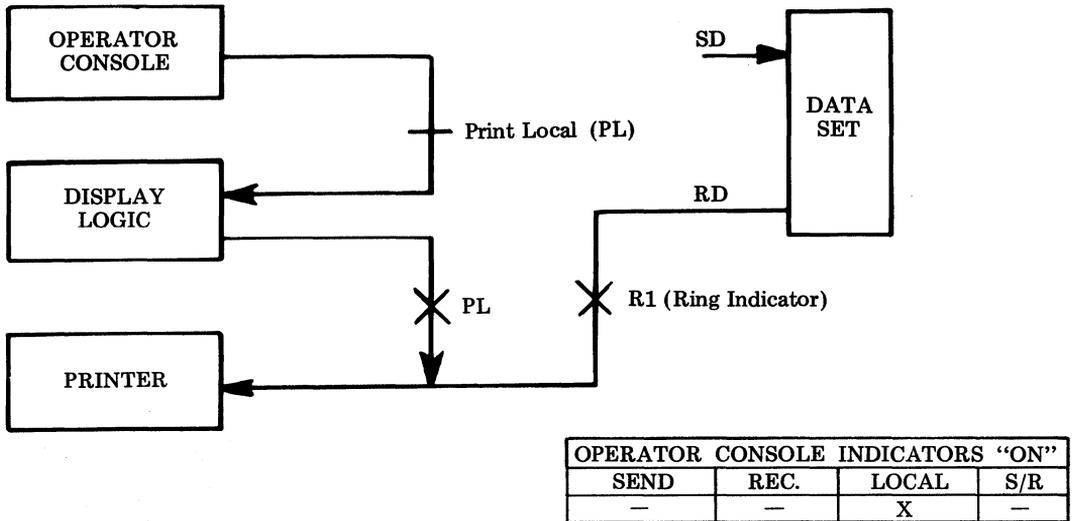

Fig. 1—Local Mode
7.21 In the local mode (Fig. 1), the controller interfaces the opcon to the display logic. This "off-line" mode allows the terminal operator to prepare or edit information to be stored in the display logic and displayed on the monitor prior to transmission to the line or a local printer. The terminal is in the local mode when the lamp is lighted in the LOCAL switch keytop on the opcon. Printer access in the local mode is discussed in 7.32.